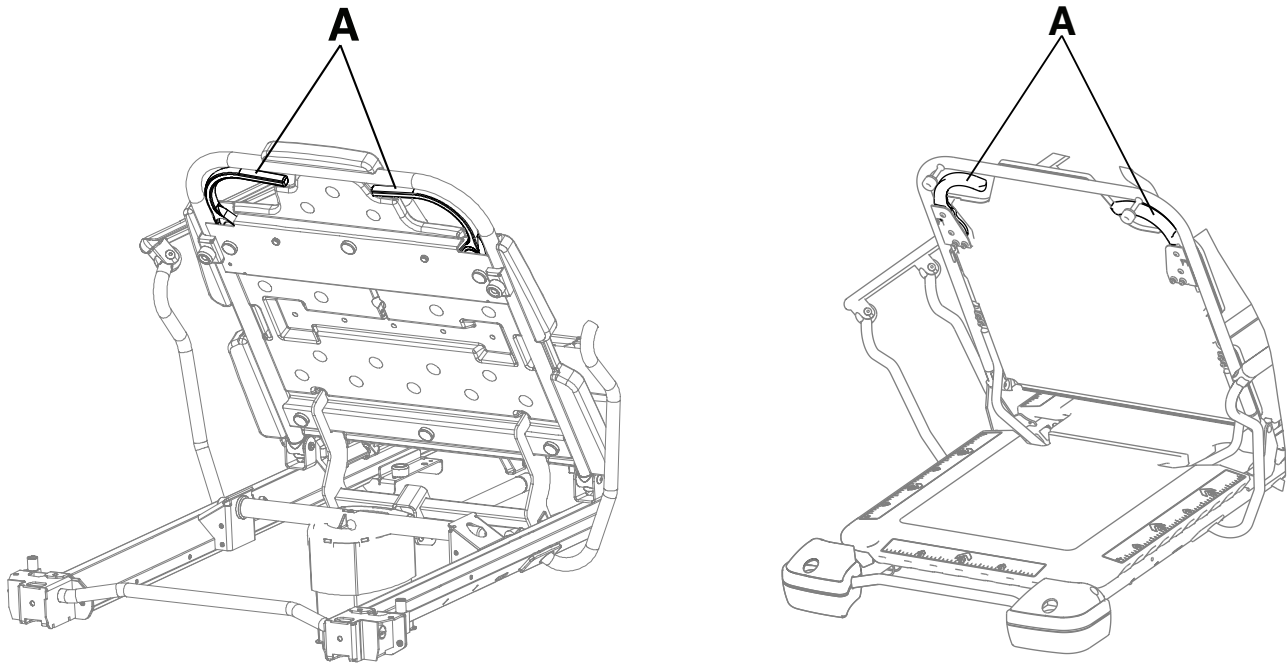

Figure 17 – Raising or lowering the Fowler backrest
1. Squeeze and hold one or both of the Fowler backrest release handles (A) while you pull the Fowler backrest up to the desired position (0° to 90°) (Figure 17).
1. Squeeze and hold one or both of the Fowler backrest release handles (A) while you push the Fowler backrest down to the desired position (90° to 0°) (Figure 17).